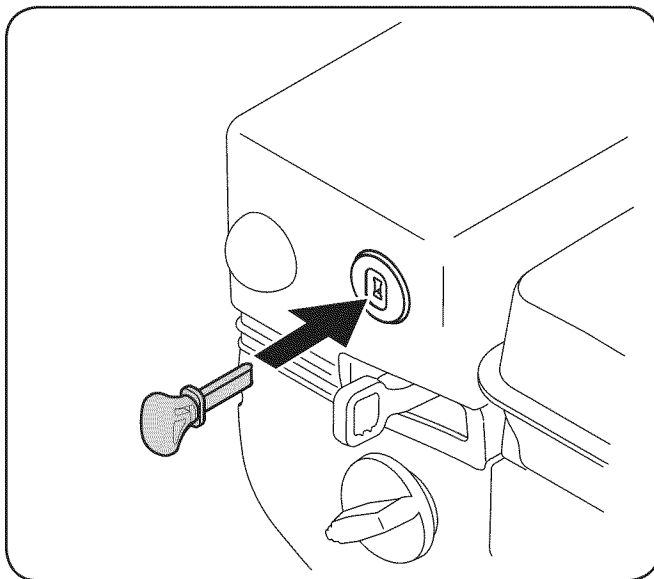

Figure 5-1
1. Insert ignition key fully into slot, Figure 5-1. Make sure it snaps into place. DO NOT turn ignition key. The engine cannot start unless the key is inserted into ignition switch.